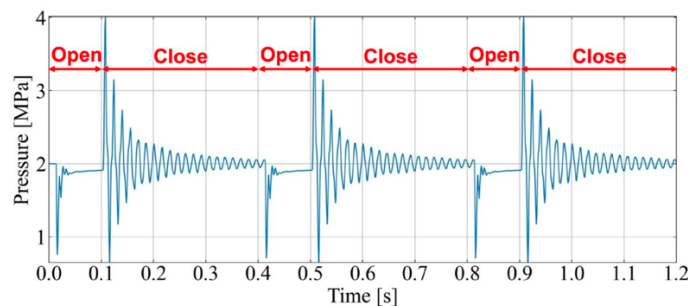

Figure 2: Typical pressure profile.
- Typical time series data is shown in Fig. 2.